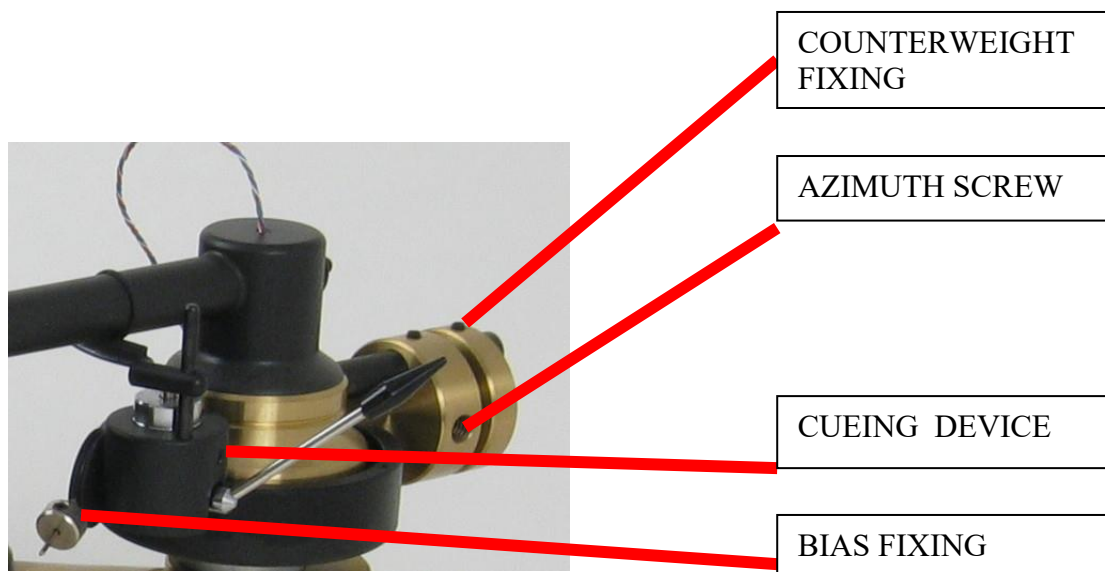

Fig.2.
near to the platter spindle. At the same time both screws should be symmetrical but further away. See fig 2.
Carefully lift the tube base with counterweights and cable which, (for **transport only**) is fixed at the end of the tube. Position it gently onto the bearing shaft. The bearing pivot will automatically fit into the bearing cup on top of the bearing shaft. With Allen key (1.5 mm), release and then remove the metal holder and cable from the back of the tube and carefully fix it on the outside of the bearing base. Rotate the cable in such a way that the wires rise vertically. Then fix it with Allen key 1.5 mm. With fingers gently arrange the wires into a loop. ( See Fig.2 and arrow on Fig. 4)
Level the turntable horizontally. Any change will affect the azimuth. Observe the mirror image of the cartridge on the record and adjust the tilt of the cartridge so that the mirror image and the cartridge will be vertical and straight. For this adjustment, rotate the thinner counterweight. If you find that the tilt is excessive, then first rotate the thicker counterweight and then make fine adjustments with the thinner counterweight. See Fig.2.
Counting rotations enables you to listen to improvements in focus and to return to the original position. If necessary consult your dealer. See Fig.2.